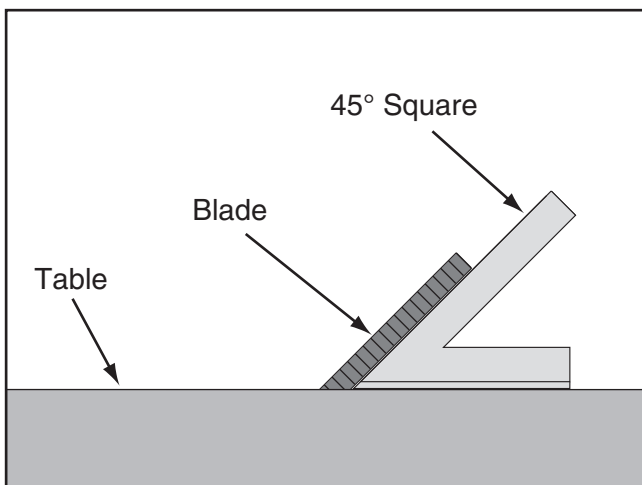

Figure 124. Checking blade at 45°.
3. Place a 45° square against the table and blade so it contacts the blade evenly from bottom to top, as shown in **Figure 124**. Make sure a blade tooth does not obstruct the placement of the square.